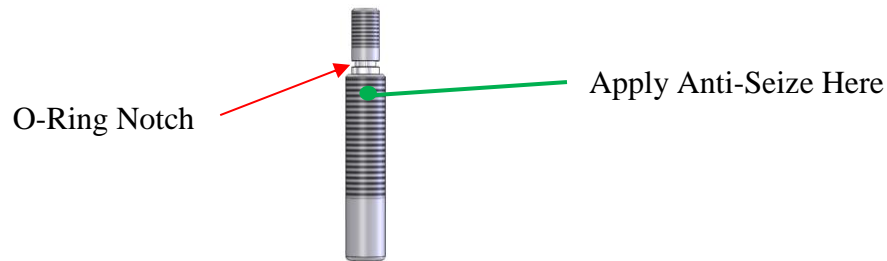

Figure 32: Adjustment Screw O-Ring Notch
1. Lightly apply a small amount of anti-seize to the threads of the adjustment screw. See Figure 32.
5. Carefully place the adjustment screw o-ring onto the adjustment screw making sure not to cut the o-ring. The o-ring should reside in a notch groove below the upper threads of the adjustment screw. See Figure 32.